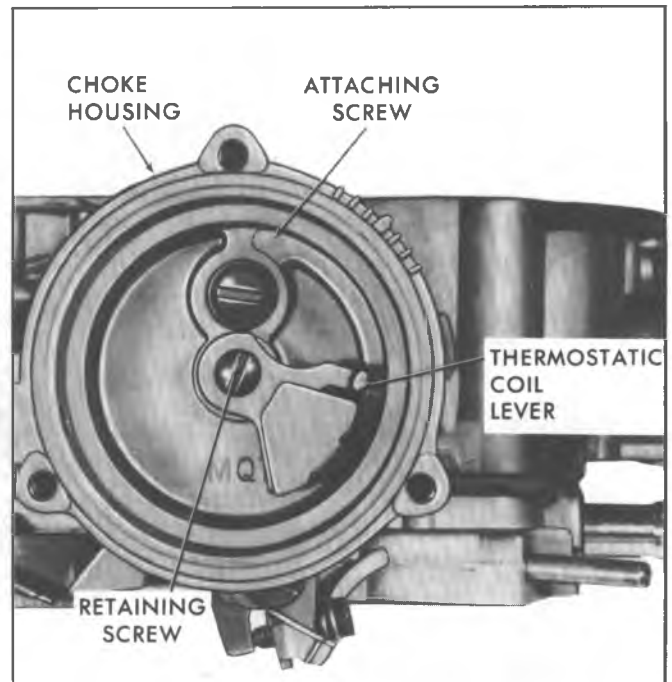
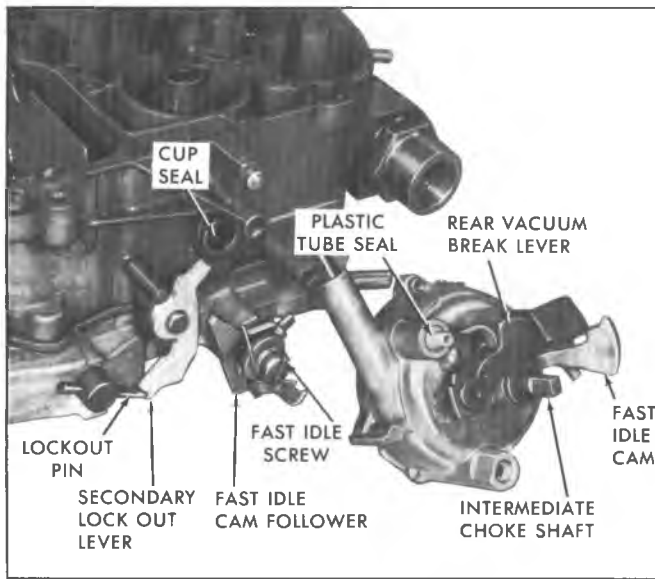

Fig. 15MQ-Removing Choke Housing
Fig. 16MQ-Choke Housing Assembly
2. Remove choke housing assembly from float bowl by removing retaining screw and washer inside the choke housing (Fig. 15MQ). The complete choke assembly can be removed from the float bowl by sliding outward.
3. Remove secondary throttle valve lock-out lever from float bowl. (Fig. 16MQ).
5. Remove plastic tube seal from choke housing (Fig. 16MQ).
6. To disassemble intermediate choke shaft from choke housing, remove coil lever retaining screw at end of shaft inside the choke housing (Fig. 15MQ). Then remove thermostatic coil lever from flats on intermediate choke shaft. Remove intermediate choke shaft from the choke housing by sliding outward. The fast idle cam can now be removed from the intermediate choke shaft (Fig. 16MQ).
4. Install fast idle cam onto the intermediate choke shaft (steps on fast idle cam face downward) (Fig. 16MQ).